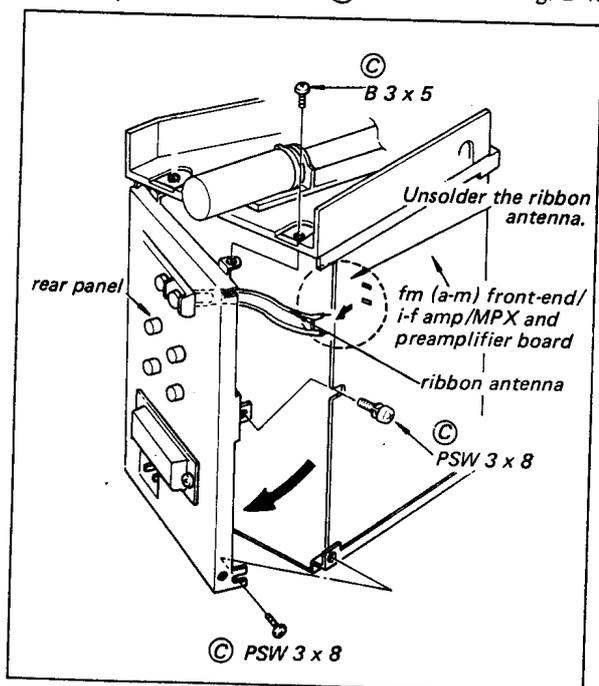

Fig. 2-6. Fm (a-m) front-end/i-f amp/MPX and preamplifier board removal
2. Unsolder the ribbon antenna at the fm (a-m) front-end/i-f amp/MPX and preamplifier board as shown in Fig. 2-6.
3. Remove the rear panel in the arrow direction by loosening the three screws ( C ) as shown in Fig. 2-6.
3. Unsolder the ribbon antenna as shown in Fig. 2-6.
4. Loosen the three screws ( C ) as shown in Fig. 2-6.
5. Carefully open the rear panel in the arrow direction shown in Fig. 2-6 taking care not to break the lead wires.